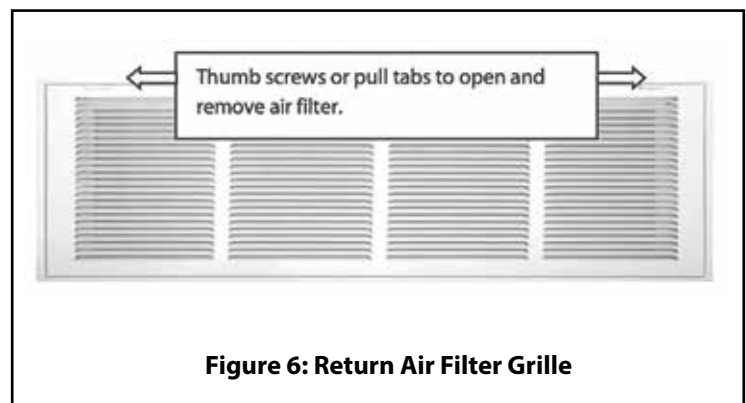

Figure 6: Return Air Filter Grille
1. Remove the thumb screw(s) on the filter grille or pull down on the latches on each side of the grille to release the hinged grille from the frame (See Figure 6).